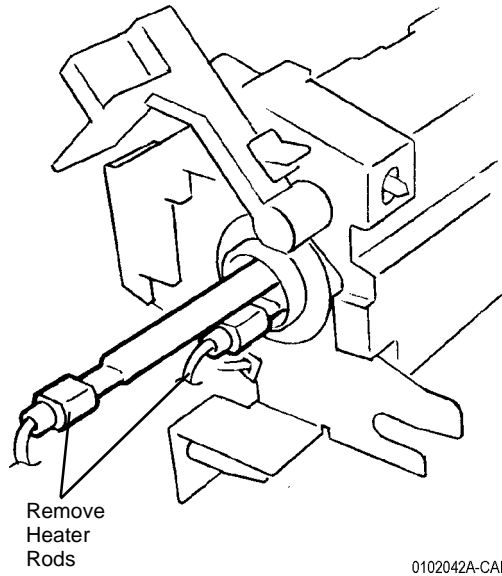

Figure 3 Removing Heater Rods
5. Remove Heater Rods (Figure 3).